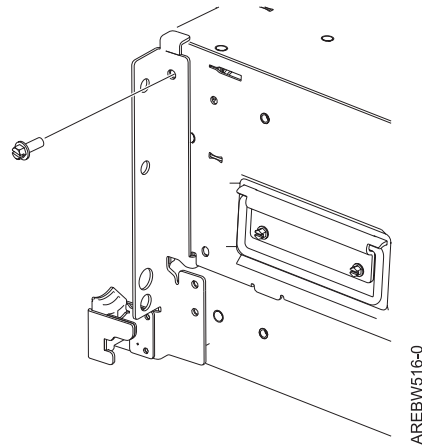

Figure 55. Rotate the top of the bracket back so that the top tab is on top of the system
- d. Rotate the top of the bracket back so that the top tab is on top of the system. Then install the screws as shown in Figure 55 on page 52.